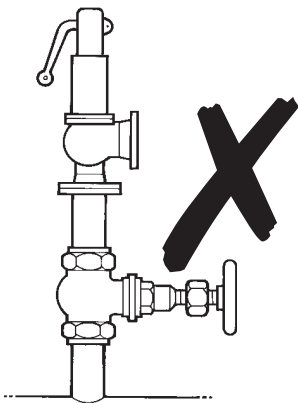

Fig 2
- 4.3 There should be no intervening valve or fitting i.e. it should not be possible to isolate safety valve. (Fig. 2)